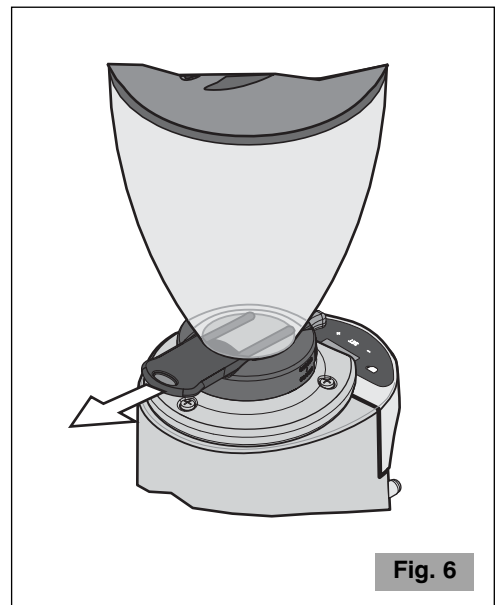

Fig. 6
**!** **Make sure that shutter is completely open (to the last click) (see Fig. 6).**